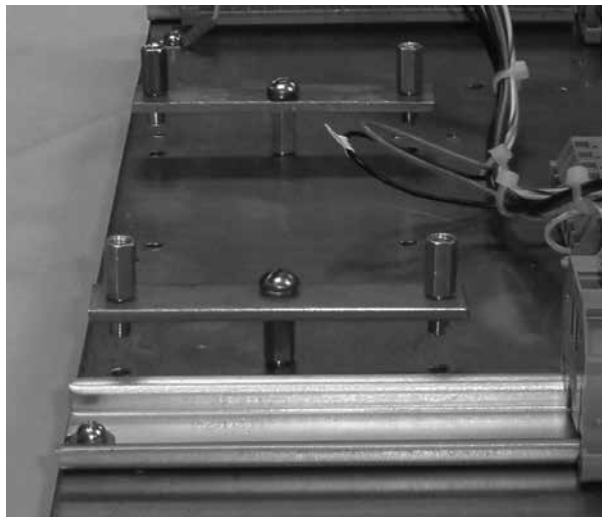

Figure 12. Alternate method of mounting communications module
- An alternate method of mounting the communications board onto the back panel is to use two (2) stainless steel mounting plates (Item 15), six (6) screws and lock washers (Items 10 and 12), four (4) brass washers (Item 13) and six (6) 1/2" stand-off studs, (Item 9). See Figures 12 and 13.